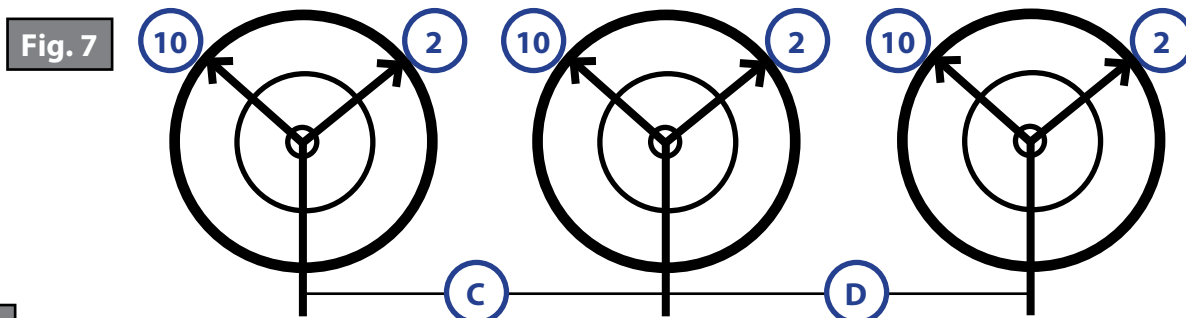

Fig. 8
At the "10" and "2" positions on each tire (Fig. 7), measure the distance between the center tread of the tire and the main rail of the frame at both the front side (Figs. 8 and 9) of the tire (A) and the rear side (Figs. 8 and 9) of the tire (B). The (A) position measurement should be smaller or equal to the (B) position measurement. The (C) measurements (Figs. 7, 8 and 9) are to be equal. The (D) measurements (Figs. 7, 8 and 9) are to be equal.